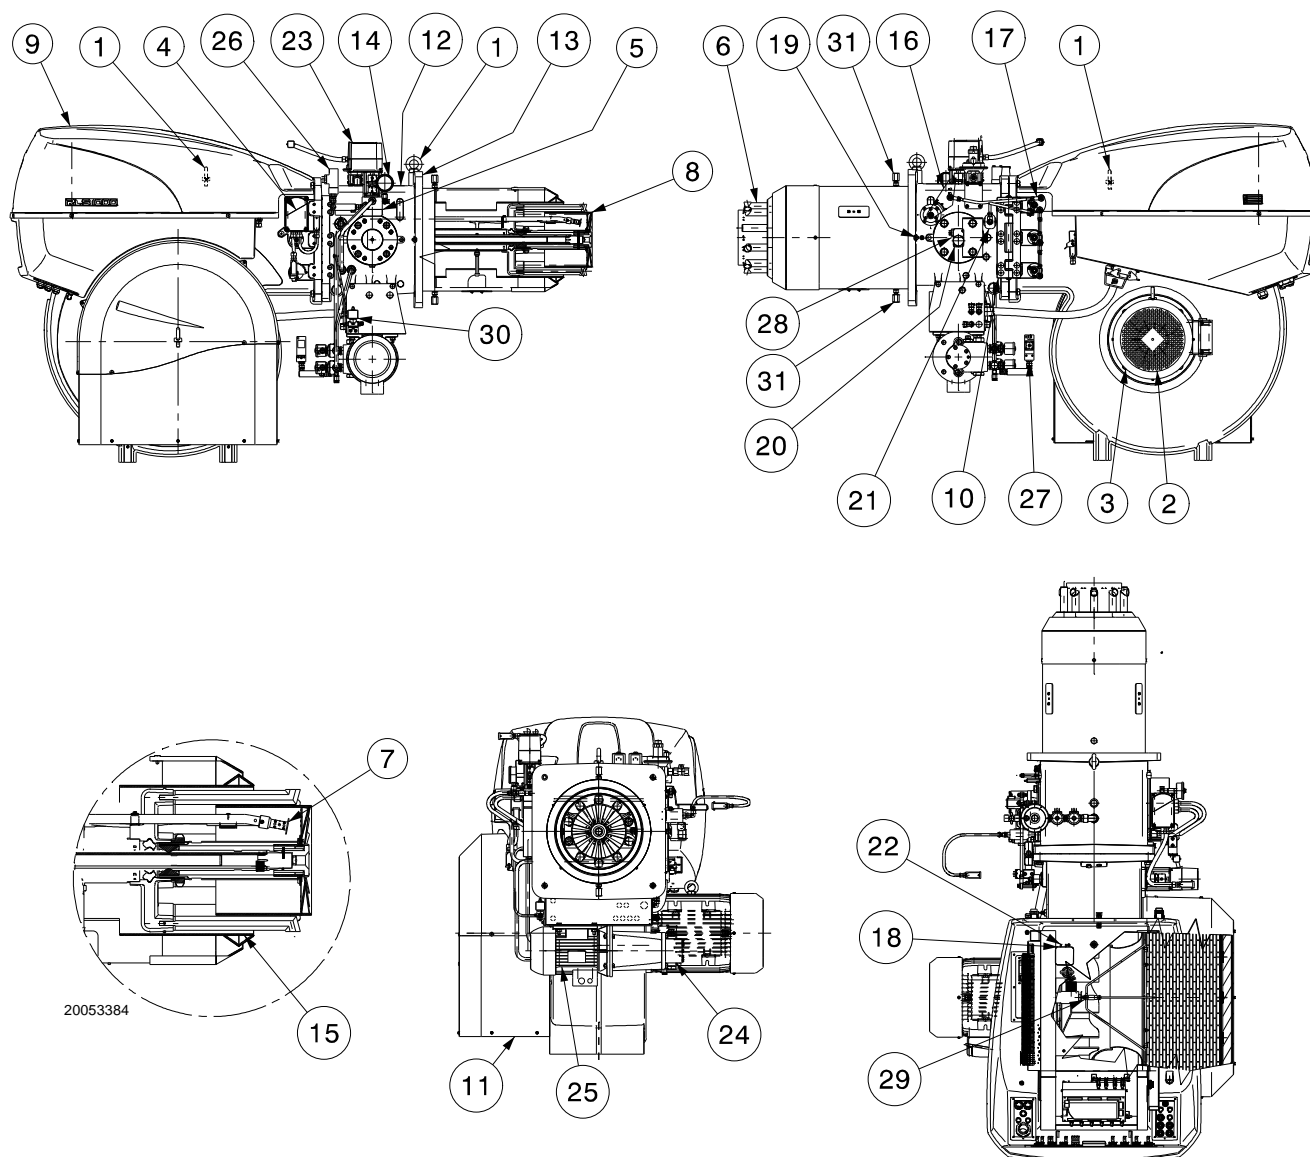

Fig. 4
(2) Pressure on the test point 28)(Fig. 4) with zero pressure in the combustion chamber and at maximum burner output.
The gas can only enter from the right side of the burner as shown in Fig. 4.